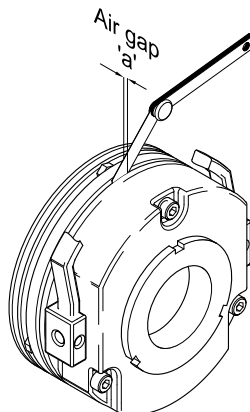

Figure 75 – Checking Traverse Brake Air Gap
The air gap 'a' (between the stator (5) and the armature plate (1)) should be checked in at least three positions around the circumference of the brake using non-magnetic feeler gauges (see Figure 75). The air gap should not exceed the maximum air gap of **0.6mm**.